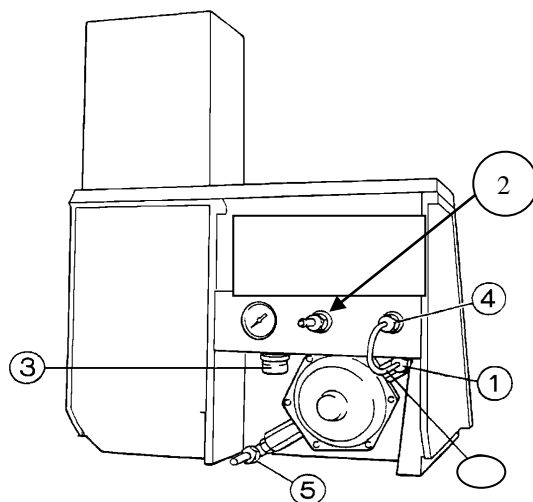

Figure 2.2 Rear Connections for Services
4. Connect the length of rubberised fuel tubing (001 72 114) between the inlet connector on the internal regulator, (item 5, figure 2.2) and the regulator at the cylinder outlet connector. Secure with 'Unex' tubing clamps (001 08 718).
7. Connect the length of reinforced hose (001 72 043) between the air compressor outlet and the air inlet connector on the rear panel (item 2, figure 2.2). Secure both ends with 'Unex' tubing clamps (001 08 718).